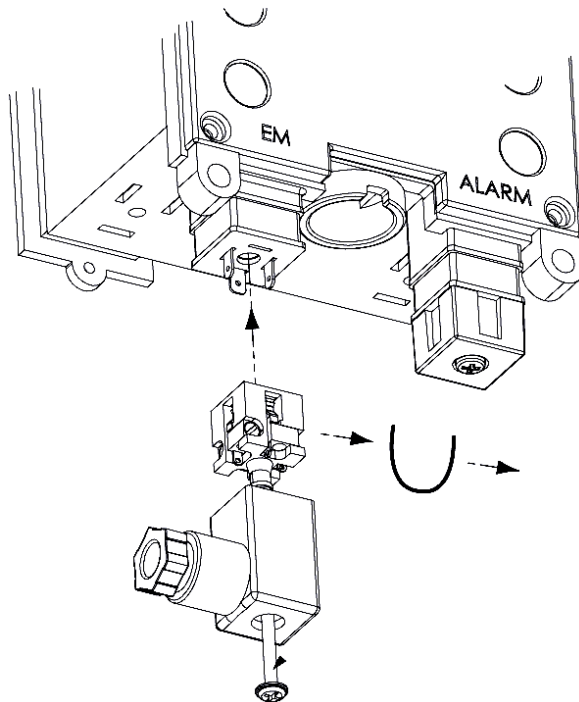

Figure 10: Removing the jumper from the DIN plug
3. Remove the jumper between terminals 1 and 2 (see figure 10).